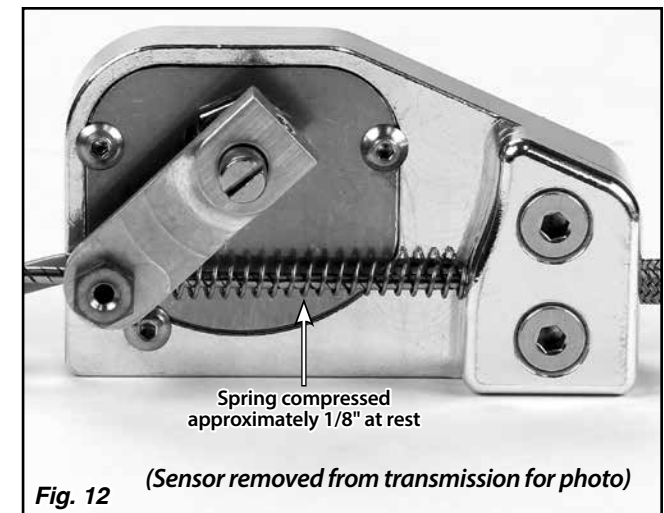

Fig. 12
Step 13: Make sure the transmission is in Park. **Push the sensor arm up against the spring, so that the spring is compressed approximately 1/8" at rest in Park.** Fig. 12 Tighten the set screw that is installed in the index cable stop on the sensor arm using a 1/16" Allen wrench. Trim the excess inner wire, leaving about 1" protruding.